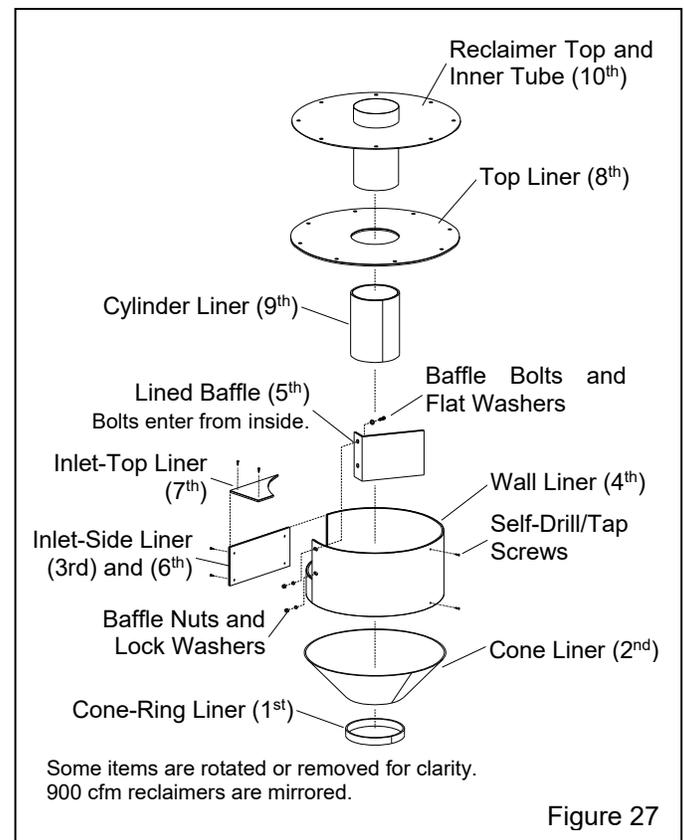

Figure 27
## 7.9 Replacing or Field Installing Optional Rubber Reclaimer Liners – Figure 27
The reclaimer must be designed to accept liners and have a removable top, as shown in Figure 27. **NOTE: The following instructions are to replace existing liners or to field install new liners into modular-style**
**Installation Note:** The numbers in parentheses (-) shown in Figure 27 and in the following applicable paragraphs show the recommended order of installation. When installing the liners, make sure that seams are aligned. The final assembly must be smooth and free of protrusions, edges, and gaps. Any edges will disrupt the air flow, causing wear and affecting the reclaimer's media cleaning efficiency.